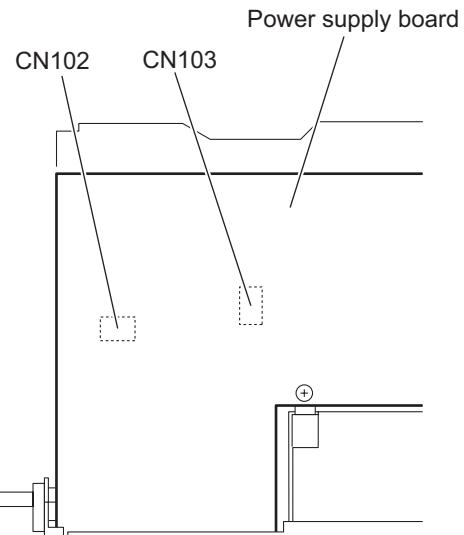

Fig.22
(See Figs.22 and 23)
- From the forward side of the power supply board, disconnect the wires from the connectors (CN102, CN103). (See Fig.22.)